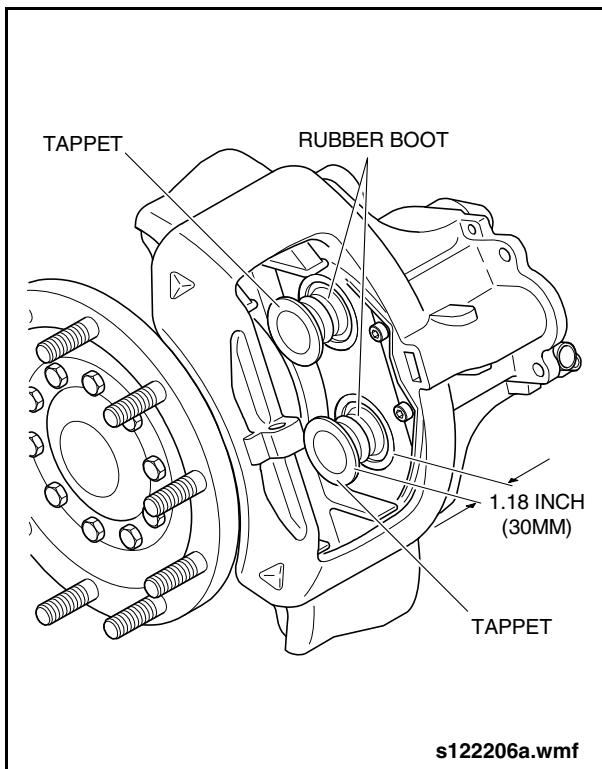

Fig. 2-117: Tappet & Rubber Boot Inspection
2. Rotate the adjuster clockwise until the tappets extend approximately 0.79" (20 mm) from the caliper surface. This will allow full extension of the tappet rubber boot for a proper visual inspection. See "Fig. 2-117: Tappet & Rubber Boot Inspection" on page 106.